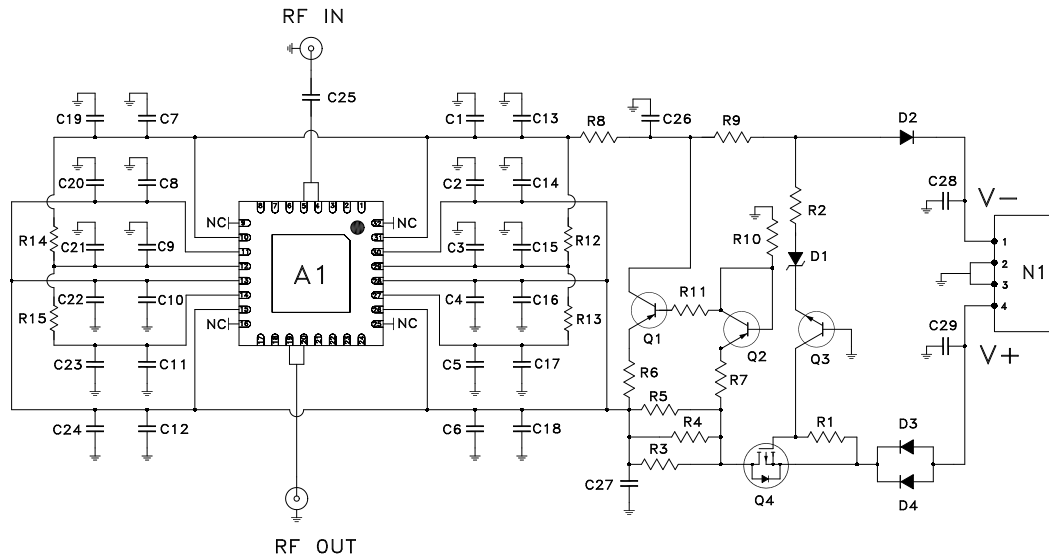

Fig. 1 Schematic of Test Board TB-715-5V (Test & Application)
1. Measured on Mini-Circuits Test Board TB-715-5V. See Characterization Test Circuit (Fig. 1). See cautionary note .
ALTERNATELY – utilize the bias circuit defined in Figure 1 which does not require any voltage sequencing or gate voltage adjustment. This circuit operates with +6.4 Volts and -5 Volts and automatically ensures proper sequencing of supply voltages for safe operation. MINI-CIRCUITS WARRANTY IS VOID IF USED WITHOUT CIRCUIT DEFINED IN FIGURE 1
NOTE: MINI-CIRCUITS WARRANTY IS VOID IF FIGURE 1 IS NOT USED.